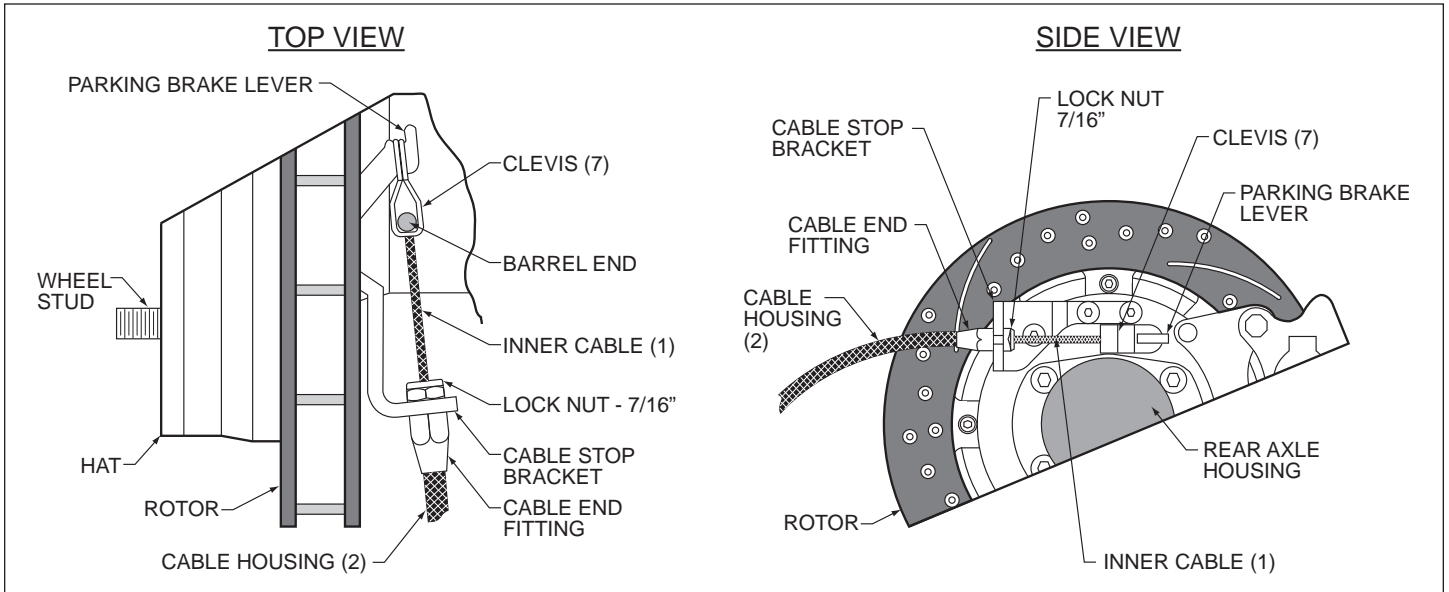

Figure 1. Typical Cable Installation, Drum Parking Brake
- Insert the cable end fitting into the cable stop bracket and tighten down the supplied 7/16" lock nut, Figures 1 and 2. Do not over tighten **NOTE: It is recommended that you use anti-seize lubricant on all aluminum nuts.**
- Starting at the parking brake end, insert the inner cable (1) into the cable housing (2) and feed it all the way through, Photo 6. Repeat for other side.
- Drum Parking Brake Only: Attach clevis (7) to parking brake lever as shown in Figure 1. Repeat for other side.